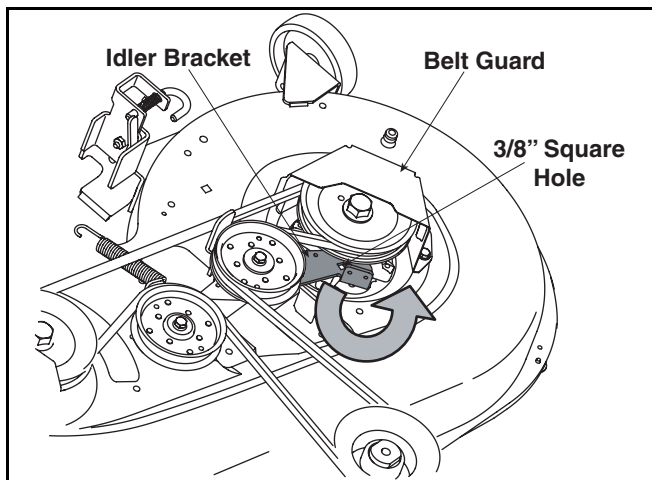

Figure 22
- Insert a 3/8"-drive ratchet wrench (set to *loosen*) into the square hole found in the idler bracket on the left side of the deck's surface. See Figure 22.
Insert a 3/8"-drive ratchet wrench (set to *loosen*) into the square hole found in the idler bracket on the left side of the deck's surface. See Figure 22.